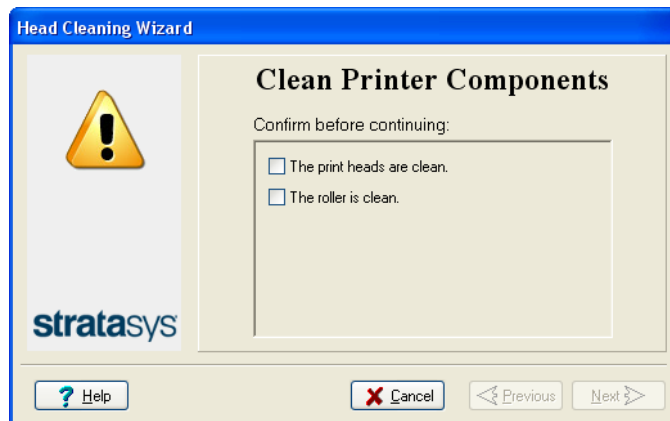

Figure 6-40 Head cleaning wizard—steps 5–11
11. When you have finished cleaning, select the confirmation check boxes in the wizard screen (see Figure 6-40) and click **Next**.